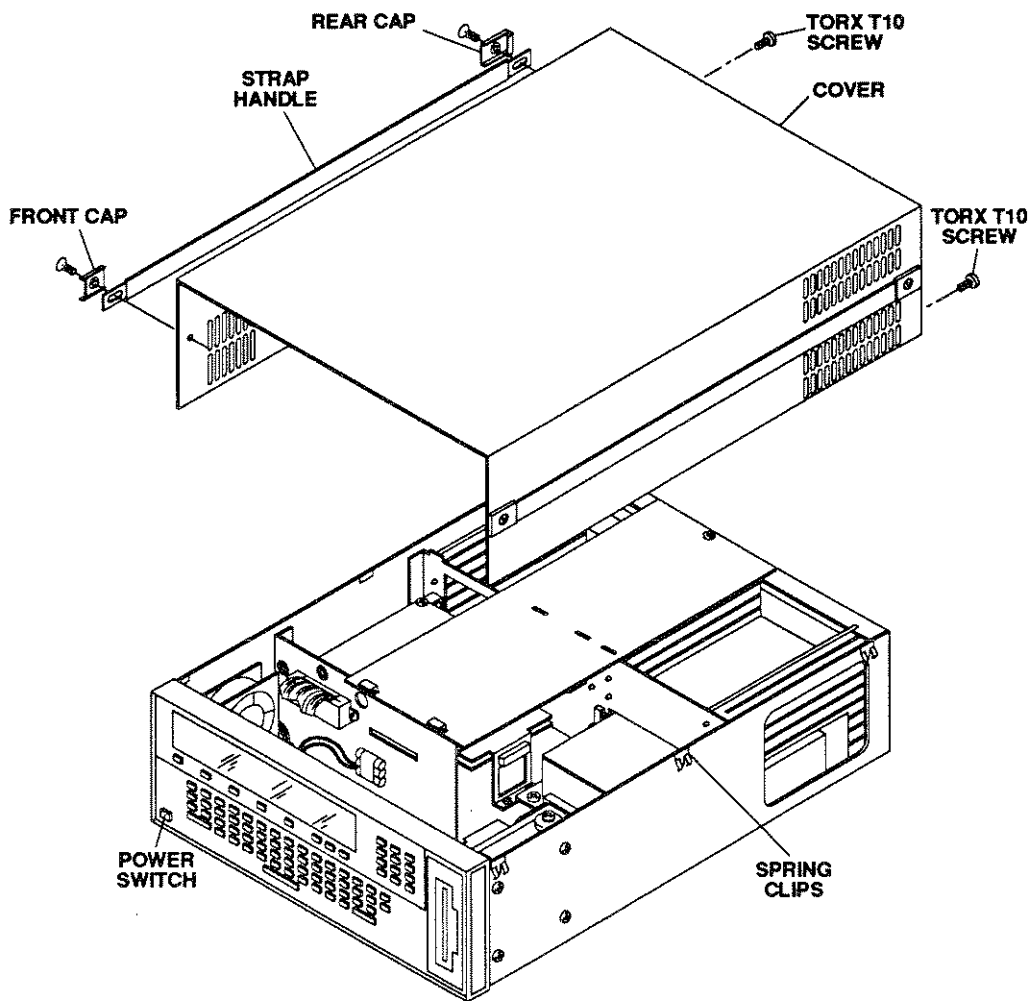
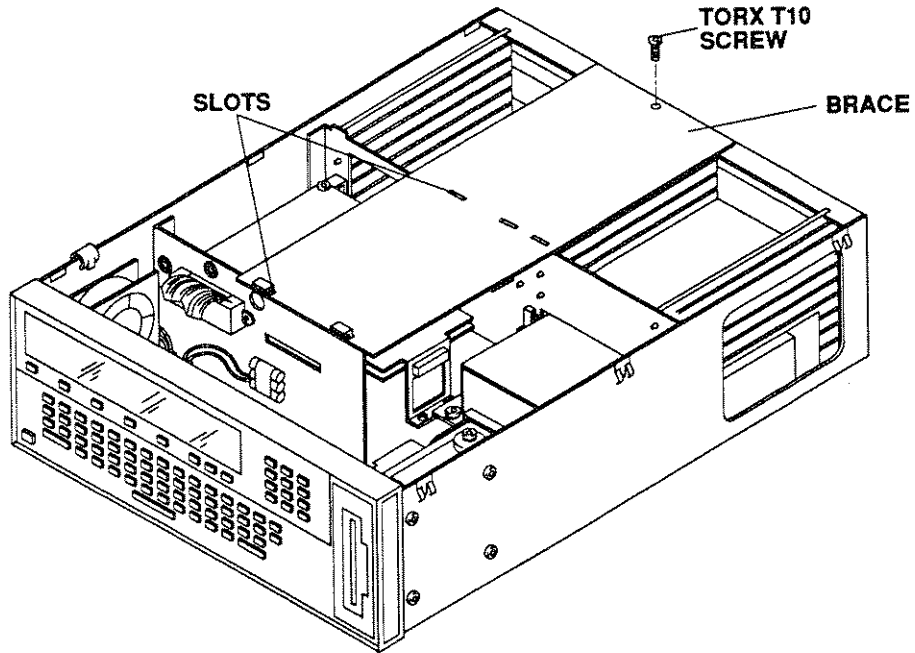

Figure 8-3. Remove and Replace Cover
Figure 8-4. Remove and Replace Brace
2. Remove both screws, then the front cap, rear cap, and strap handle from both sides of the cover (see Figure 8-3).
1. Remove the cover (see Figure 8-3).
2. Remove the Torx T10 screw from the top rear. Lift and remove the brace (see Figure 8-4).
2. Remove the cover (see Figure 8-3) and brace (see Figure 8-4).
1. Remove the cover (see Figure 8-3) and brace (see Figure 8-4).